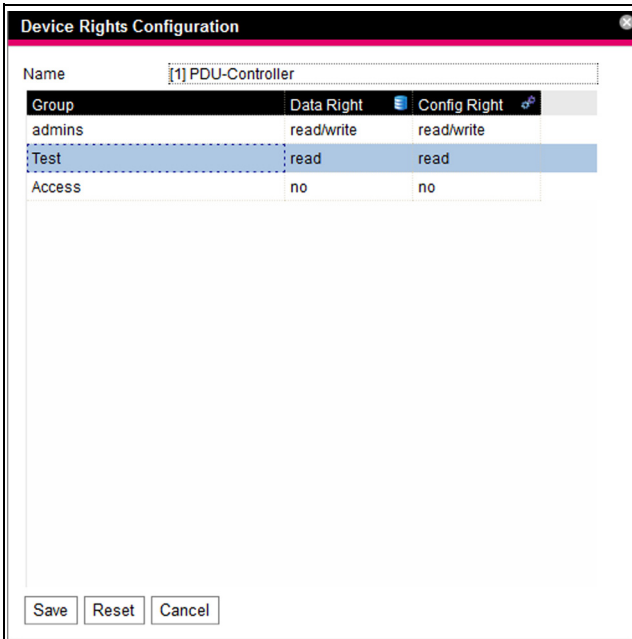

Fig. 66: "Device Rights Configuration" dialogue
- Click on the Configure Device Rights" symbol (fig. 62). The "Device Rights Configuration" dialogue will appear (fig. 66).
- After the "PDU-Controller" entry, select the "Device Rights" symbol (fig. 62). The "Device Rights Configuration" dialogue will appear (fig. 66).
The respective symbols are displayed both when selecting a sensor in the navigation area on the **Configuration** tab and opening it down to the lowest level, as well as in the "Device Rights Configuration" dialogue (fig. 66). The symbols illustrate allocation to the two data types "Data" and "Config".